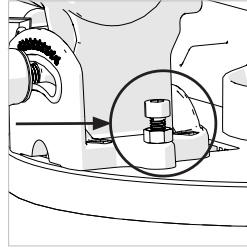

Fig. 32
- Loosen slightly the 45° Bevel Stop Adjustment Screw locknut. **(Fig. 32)**